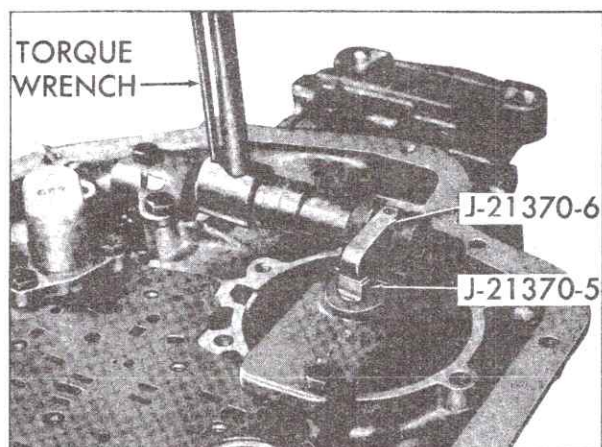

Fig. 7-37 Band Apply Pin Selection Check
1. Position Band Apply Pin Selector Gage, J-21370-6, on transmission case over rear servo bore, with hex nut on side of gage facing toward parking brake linkage, and smaller diameter end of Gage Pin, J-21370-5, in servo pin bore, Fig. 7-37.
3. To determine proper size pin to use, apply 25 foot-pounds torque on hex nut on side of gage, Fig. 7-37. This will cause lever on top of gage to depress stepped gage pin into servo pin bore, simulating actual operating conditions. Note relation of steps on gage pin and machined surface on top of gage. Determine proper size pin as follows: